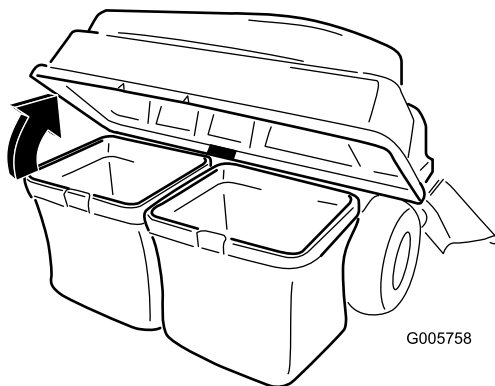

Figure 26
3. Open (raise) the bagger hood (Figure 26).